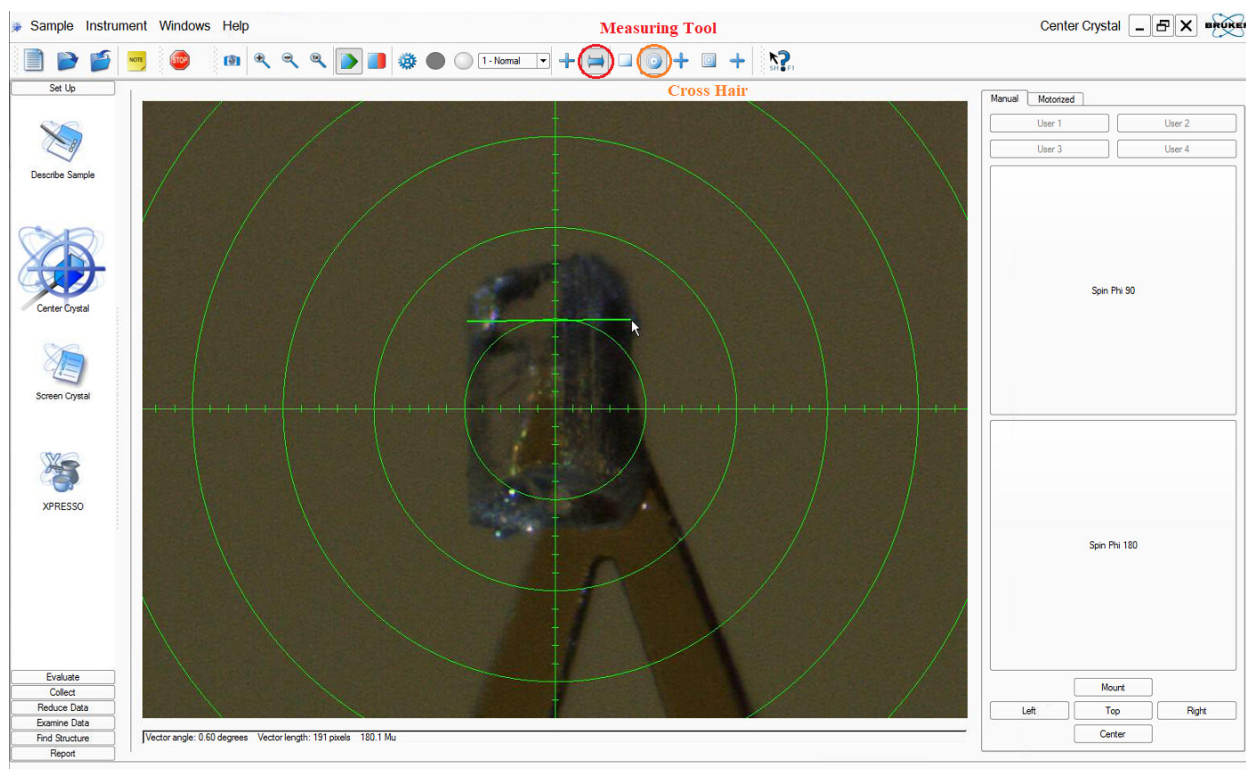

Figure 7, Crystal Centering Window and live video feed with mounted sample, cross hair and green measuring line.
- Measure the dimensions of the crystal: Switch on the measuring tool (double sided arrow icon on top of **<Center Crystal>** window, Fig. 7). Click on one side of the crystal, hold the left mouse key and drag to the other side. The length of the green line dragged is given in the